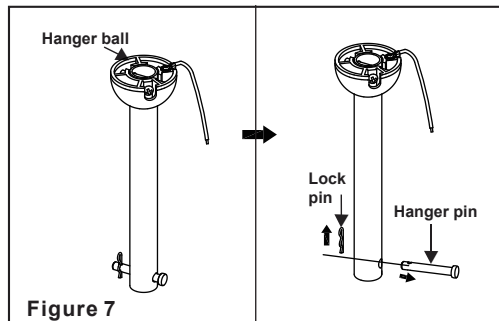

Figure 7
Step 4. Remove the hanger pin, lock pin and set screws from the top of the motor assembly. (Fig. 7)